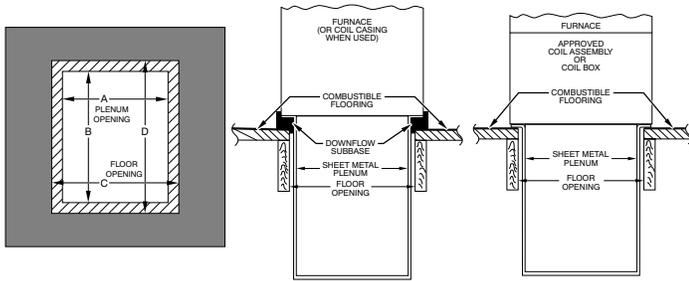

Fig. 25 – Installation on Combustible Flooring
2. Construct hole in floor per Table 6 and Fig. 25.
3. Construct plenum to dimensions specified in Table 6 and Fig. 25.
4. If downflow subbase is used, install as shown. If manufacturer’s cased evaporator coil or coil casing is used, install as shown in Fig. 25.